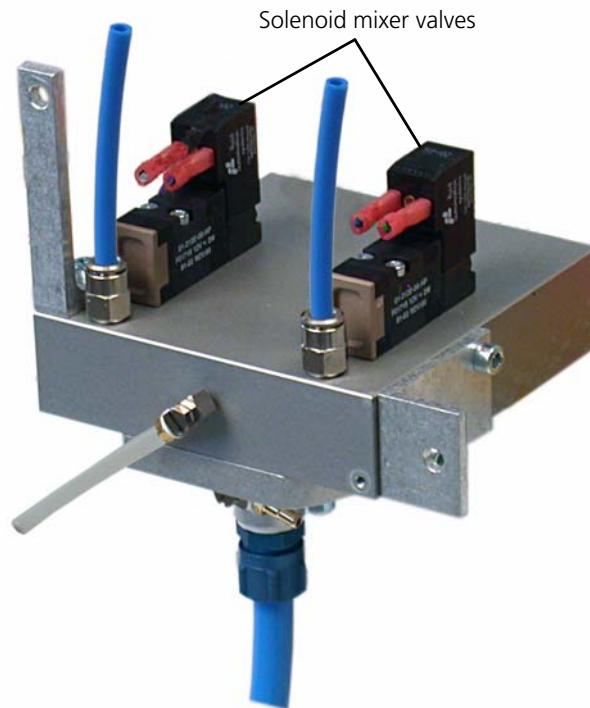
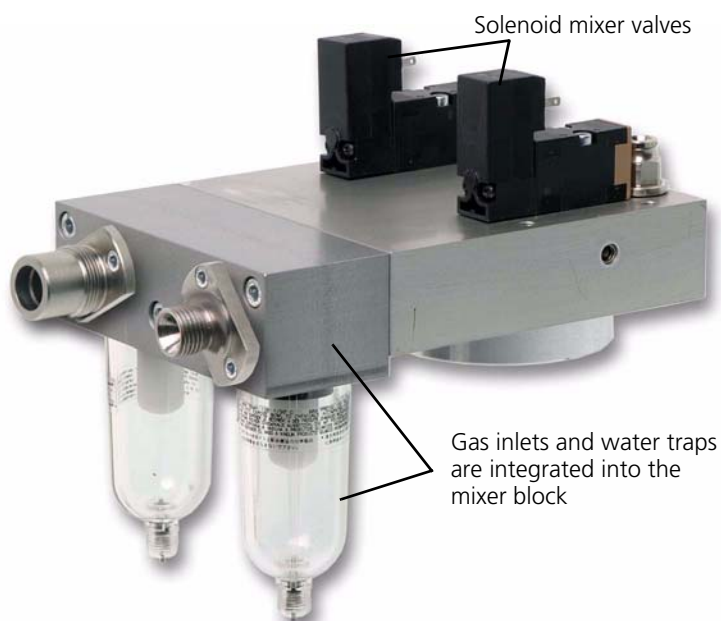

Figure 11-149. Old mixer block PN 155333 (shown from front) without gas inlets
Figure 11-150. New mixer block PN 155587 (shown from rear)
There are two models of mixer block: old, PN 155333 (Figure 11-149), and new, PN 155587 (Figure 11-150). The newer model was phased into production in spring 2006.
- In the new model, the gas inlets and water traps are integrated into the block: they are not separate items screwed to the block. (Compare Figure 11-150 on page 11-138 and Figure 11-152 on page 11-140.)